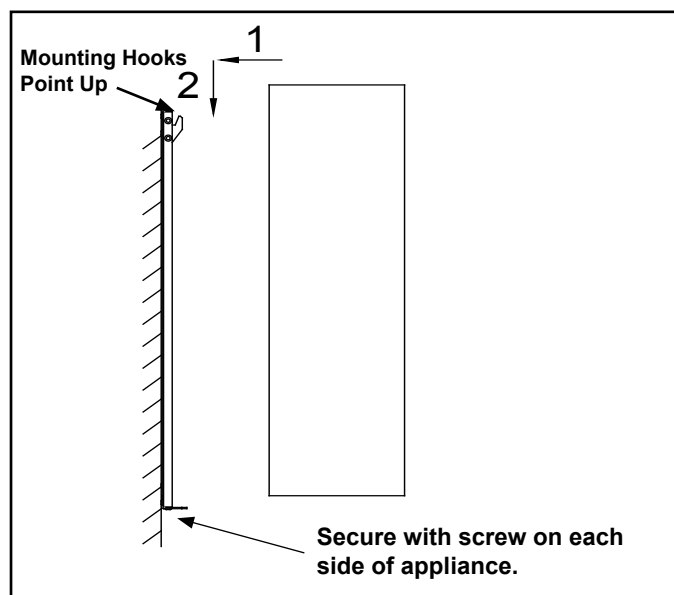

Figure 4.13 Attaching Appliance to Bracket
- Hang the appliance and pull down to ensure the hooks are fully engaged. See Figure 4.13.
- Secure the appliance to the bracket with two M5x10 screws. See Figure 4.13.